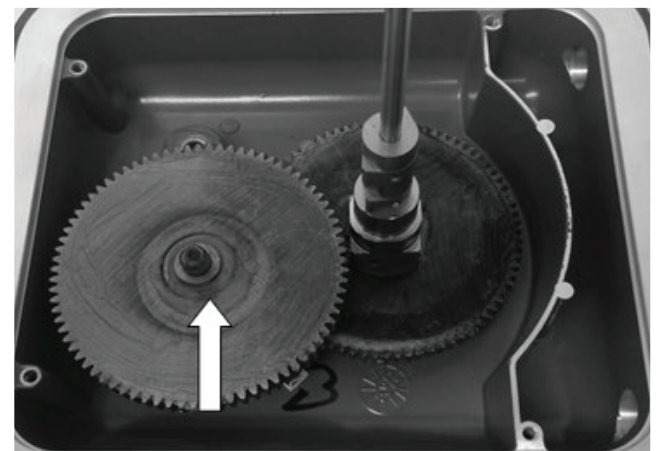

Figure 12.
- 4.14 With the plate removed, the gears left in the (LADC) base will look like Figure 12. Note also, that for LADC models there will be a small thick spacer washer on top of the cluster gear, if it is missing it may be stuck to the bottom of the motor support plate. If it is put it back on the shaft as it is in the picture.